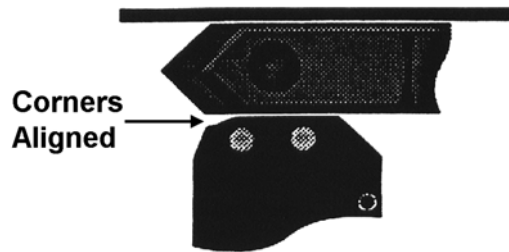

Figure 7-2. Far Tunnel Final Position for Shuttle Timing Procedure
3. Place a second shuttle to the right of the center island, with its small post also to the right. Then push this shuttle into the far tunnel, large post end first, until the edge aligns with the exit angle on the center island as shown in Figure 7-2.